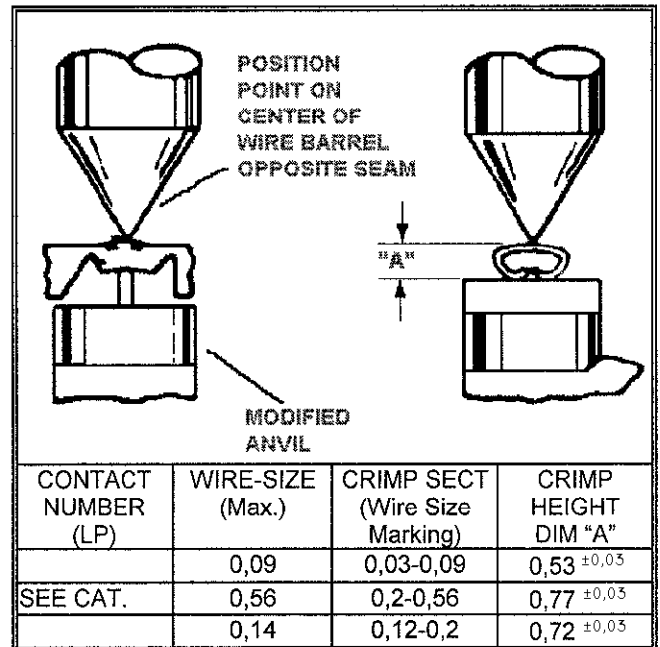

Fig. II-1
This inspection requires the use of micrometer with a modified anvil as shown in Figure II-1.
1. Refer to the chart in Figure II-1 and select a contact and a wire (maximum size) for each crimp section listed in the chart.
3. Using a crimp height comparator, measure wire barrel crimp height as shown in Figure II-1. If the crimp height conforms to that shown in the chart, the tool is considered dimensionally correct. If not, return the tool to AMP for evaluation and repair.